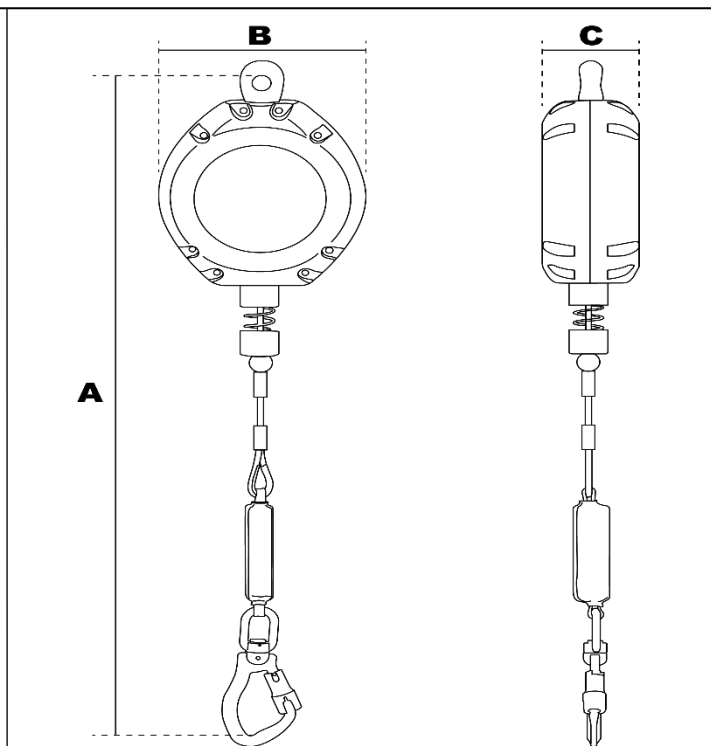

Figure 2.2: Leading Edge self-retracting lanyard
- **SELF RETRACTING LANYARDS WITH LEADING EDGE:** Are suitable for applications where the lifeline remains generally horizontal during use, and free fall is limited to 1.5 m (5 ft). Leading Edge refers to unprotected and potentially sharp edges of roofs, doors, decking, etc. These units have an integrally attached shock absorber (G), which minimizes fall arrest forces on the user and withstands impact loading of the lifeline over sharp or abrasive edges during a fall event. Refer to Figure 2.2 below.